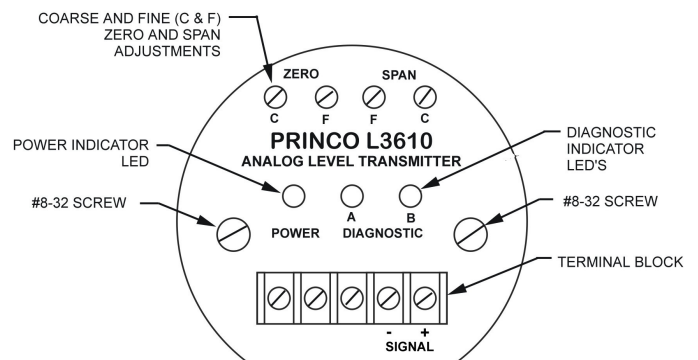

Figure 4-1:
3. The “A” and “B” LED Diagnostic Indicators, located on the top panel of the L3610 chassis (see Figure 4-1), should be in the OFF (not illuminated) state. Refer to section 4.E for a functional description of these LED indicators.
If it is determined that the pre-calibrated L3610 is not within acceptable accuracy limits, then the unit requires a complete field calibration. Refer to Figure 4-1 for adjustment potentiometers (pots) and indicators locations. Proceed as follows: